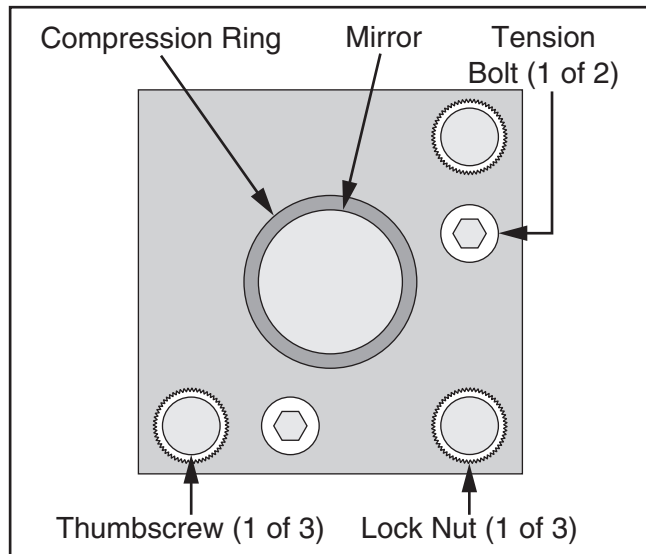

Figure 127. Typical mirror assembly.
11. Loosen lock nuts on (3) brass thumbscrews located behind Mirror #1 assembly (see **Figure 127**).
16. Loosen lock nuts on (3) brass thumbscrews located behind Mirror #2 assembly (see **Figure 127**).